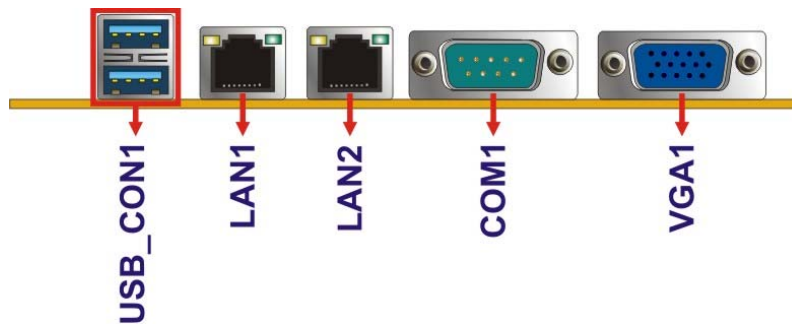

Figure 3-29: External Interface Connectors
- CN Location:** See **Figure 3-29**